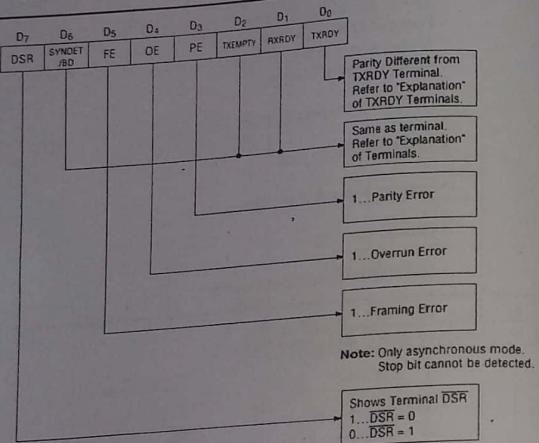

Fig. 5 Bit Configuration of Status Word
- The bit configuration of status word is shown in Fig. 5.